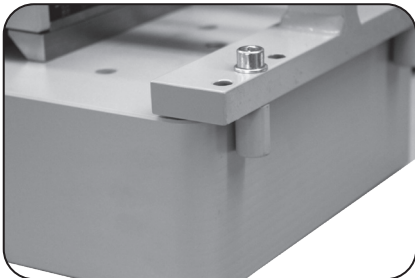

Fig. 1
- The workpiece must always properly seated against the vertical stop during lifting. (Fig.1) The displacement force must be collected from the stop. You always must set the magnet centered in the focus of the workpiece, and tighten on the bearing bolts according to the workpiece geometry symmetrically. (Fig. 2)
4. The stops must rest firmly on the Lower edge of the workpiece to prevent a slippage of the load in vertical operation. (Fig.1) If this is the case, turn ON the magnet
3. Press the stops firmly against the lower edge of the workpiece. (Fig.1)